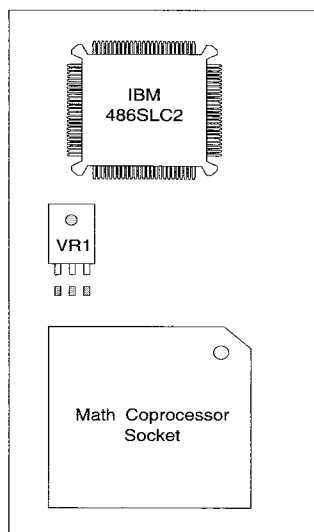

Figure 5. Top View of 486SLC2 Cached Processor Upgrade Card for the IBM PS/2 Model 30-286, (see **BOTTOM** of upgrade card for location of Pin#1).
12. Next, remove the upgrade card from the protective bag in which it was shipped, being careful to discharge any static electricity in your body before handling the card. Hold the card by the edges at all times. Identify pin 1 of the math co-processor chip (designated by a beveled edge, dot, notch or half moon). Match this corner to the beveled edge on the co-processor socket on the 486SLC2 Cached Processor Upgrade Card. (See figure 5.) Carefully insert the co-processor in the socket provided on the top side of the upgrade card. Be sure to align pin 1 on the co-processor with pin 1 in the socket. See figure 5 for the location of pin 1 on the co-processor socket. Firmly press the co-processor module into place. (The pins of the module are easily damaged and must be aligned with the contacts in the socket before pressing the module into place.)
12. If you have an 80287 co-processor installed, this must also be removed. Locate the 80287 co-processor as shown in figure 5 and insert a small flat-blade screwdriver under the end of the chip. Gently pry upwards, repeat for both ends. Once the pins have been sufficiently exposed remove with your fingers. (Save the 80287 co-processor in the event you need to temporarily return to the old configuration. The math co-processor should also be stored in the antistatic bag.)